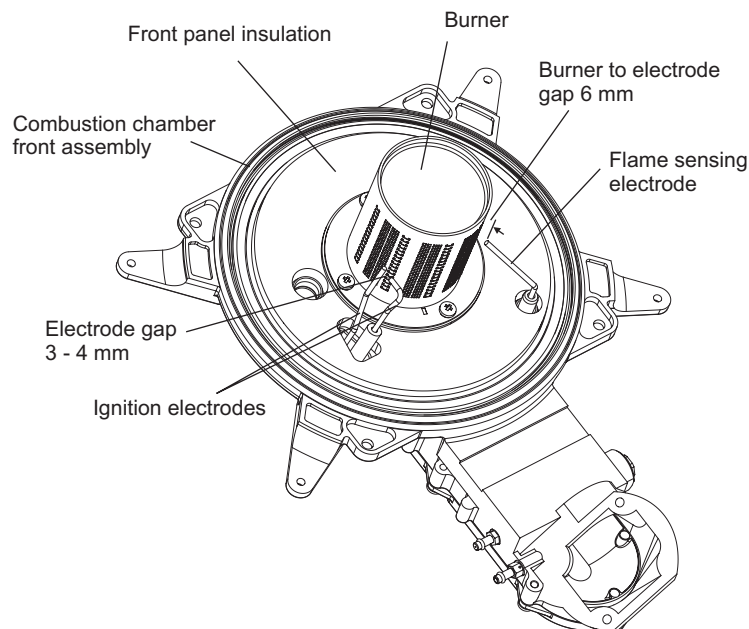

Fig. 6.2
6. Remove the four screws securing the burner (see Fig. 6.2) and remove the burner. Clean the burner with a soft brush and check that the flame ports are clear. Blockages may be removed with a stiffer brush. Tap the burner, open end down, to remove any deposits from inside.
8. Check the spark gap, positioning and height of the electrodes, see Fig. 6.2.
5. Place the front case panel in position and secure in position with the four screws previously removed, see Fig. 6.2.
### 7.4 MAIN BURNER - Fig. 6.2